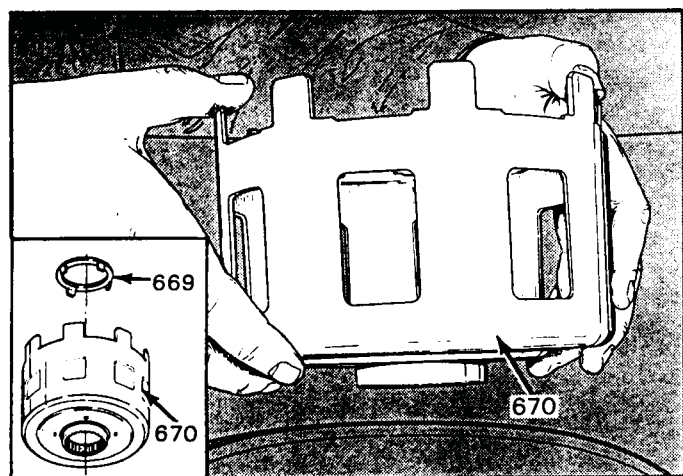

Figure 96
3. Install the reaction sun gear shell thrust washer onto the reaction sun gear shell (Figure 96), and retain with Trans-Jel.
4. Install the reaction sun shell and thrust washer by rotating onto the reaction sun gear splines. Refer to Figure 96.